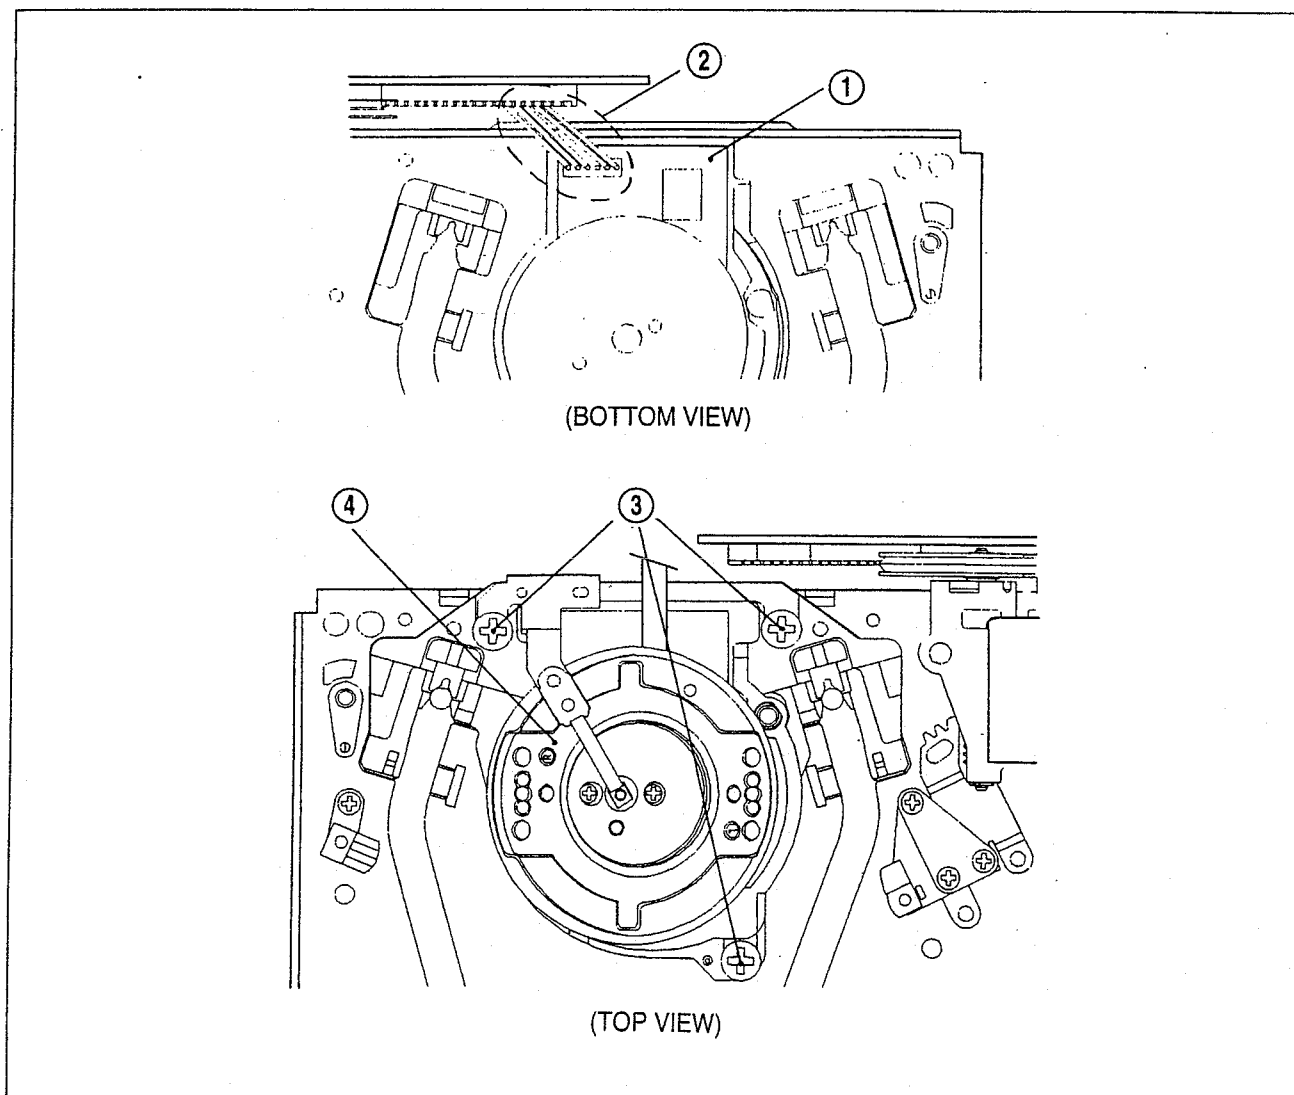

Fig. 3-2
2. REPLACEMENT OF THE DRUM TOTAL ASS'Y (See Fig. 3-2)